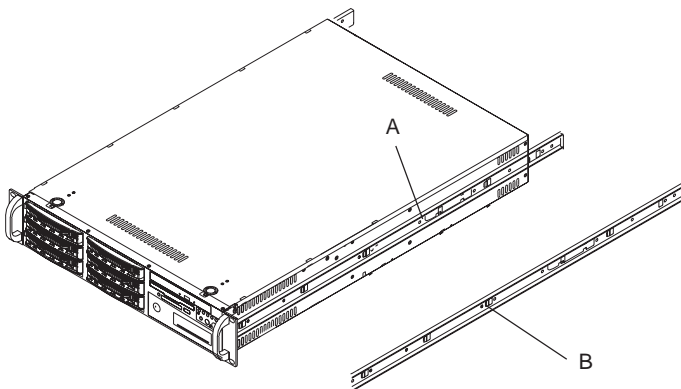

Figure 2-1. Identifying the Sections of the Rack Rails
You should have received two rack rail assemblies with the SuperServer 6022P-6. Each of these assemblies consist of three sections: an inner fixed chassis rail that secures to the 6022P-6 (A) and an outer fixed rack rail that secures directly to the rack itself (B). A sliding rail guide sandwiched between the two should remain attached to the fixed rack rail. (See Figure 2-1.) The A and B rails must be detached from each other to install.